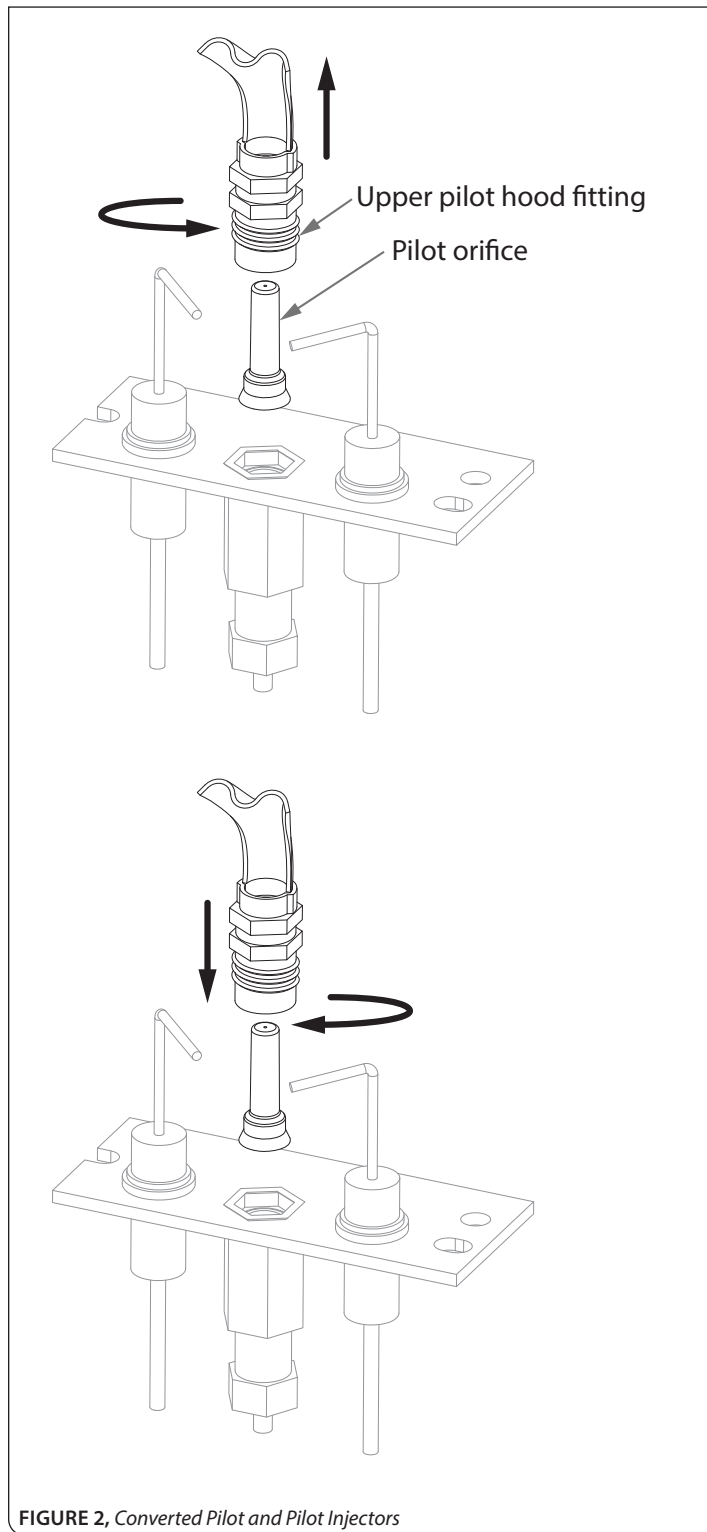

FIGURE 2, Converted Pilot and Pilot Injectors
- Step 1: Using a 7/16" wrench, loosen the upper pilot hood fitting by turning counter-clockwise. See FIGURE 2.